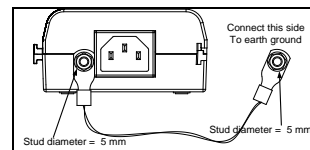

Figure 2: Stud Connection to Ground
- ◆ The supplemental protective Earthing terminal provided on this product shall be permanently connected to earth (See figure 2). If the supplemental earth ground is replaced, apply 5LB/In torque.